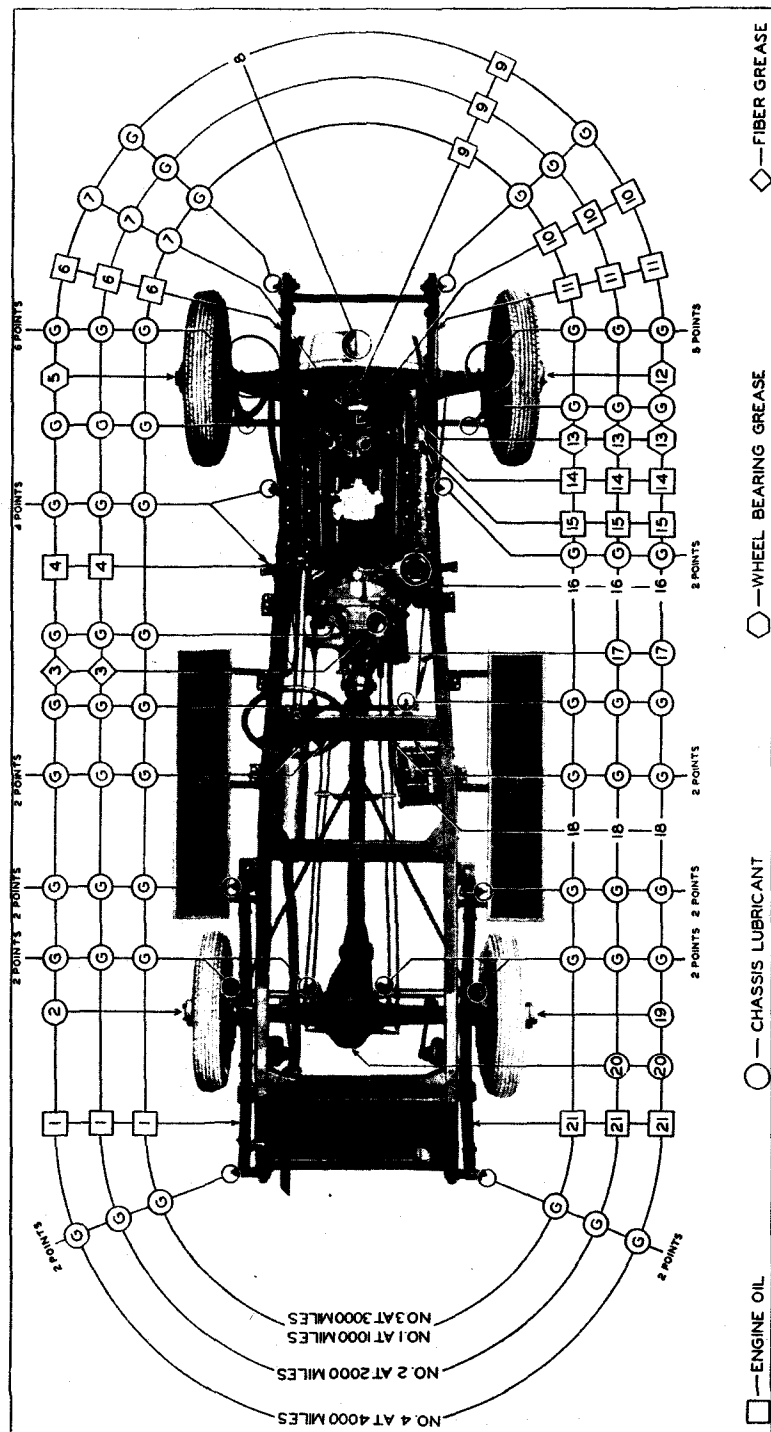

Figure 28. Each "G" represents a grease gun connection. Each number indicates a lubricating point for which instructions are given in Chapters II and III.
*The numbers following the headings in this chapter and Chapter III refer to Fig. 28.
Spring bolts, steering connections, brake rocker shafts and other points are provided with connections to fit the grease gun supplied with the tool equipment. These points are indicated by "G" in Fig. 28. Chassis lubricant as specified on page 47 should be applied to these points with the grease gun every 1000 miles.